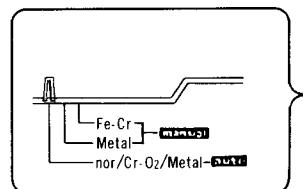

Fig. 27
- When the tape used is provided with metal tape mode detection hole, set the tape selector located at the back of the set to auto position (fig. 27).
- Set the tape selector located at the back of the set to auto position (fig. 27).
- When the tape used is provided with CrO₂ tape mode detection hole, set the tape selector located at the back of the set to auto position (fig. 27).
- When the tape used is not provided with the CrO₂ tape detection hole, set the tape selector to auto position and, as shown in fig. 27, pull out the 6 pin socket \square , and short-circuit the terminal of the 6 pin post \square as shown in fig. 30, then the circuit is set to CrO₂ mode.